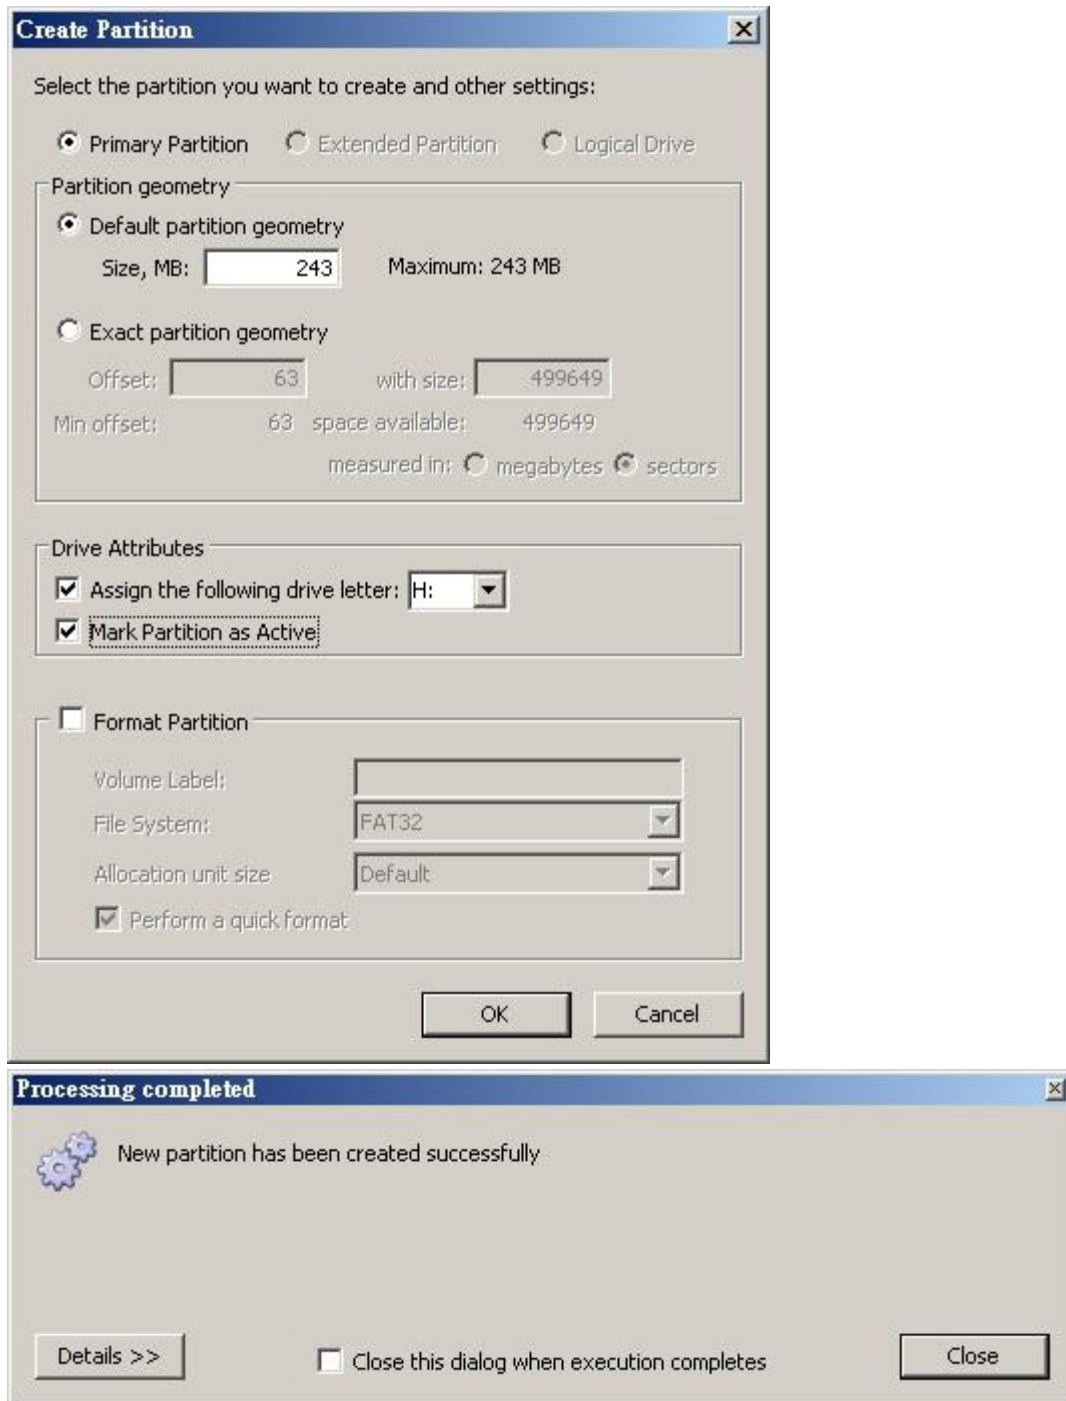

Figure 11
- In the menu mark “partition as active”, press OK, it will then show “successful” (see figure 11)